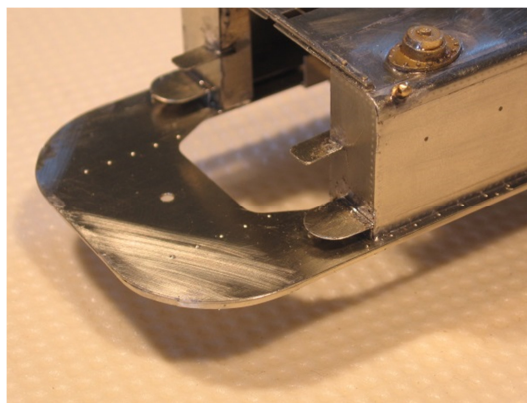

*Fig. 122*
203. The sandpots (152) sit on a bracket (129) in front of each tank end. Fig 122.